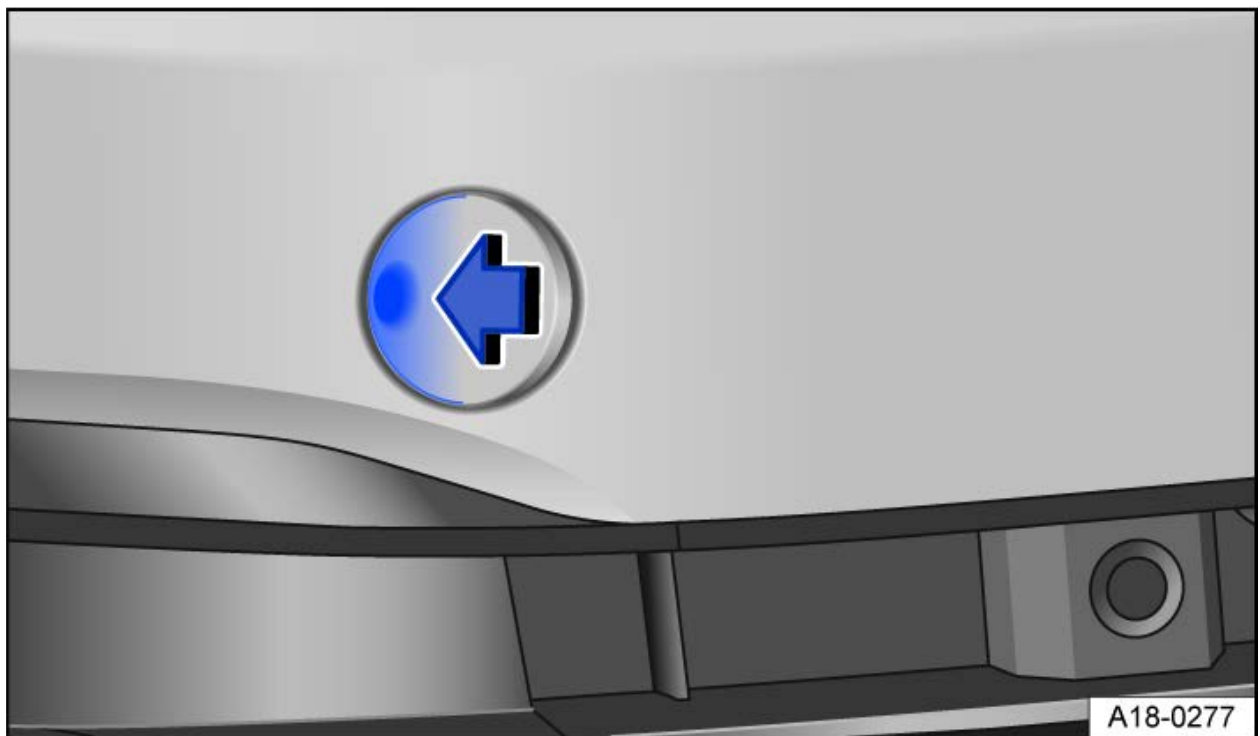

Fig. 1 In the right front bumper: Remove cover.
- Press on the side of the cover (arrow) to release the lock on the cover → *fig. 1*.